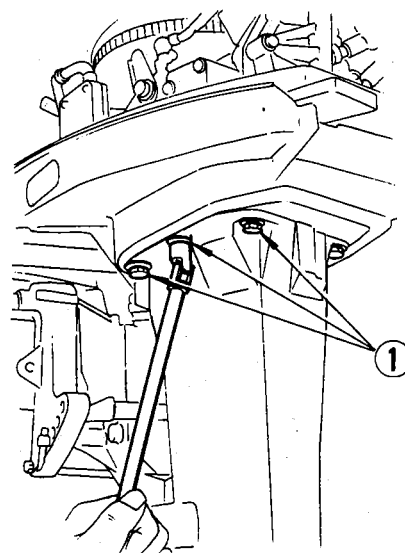

Fig. 21 Removing the engine
- (1) Fuel pipe (A)
- (2) Handle link rod
- 6) Remove the engine mounting bolts (H840-6) and remove the power unit pull it up. (Fig. 21)